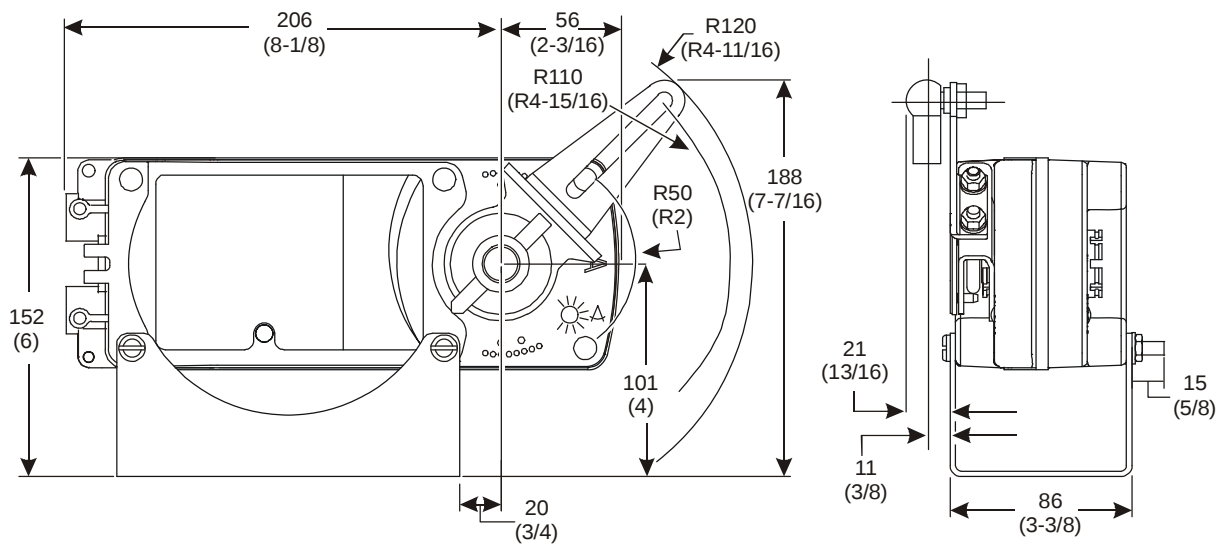
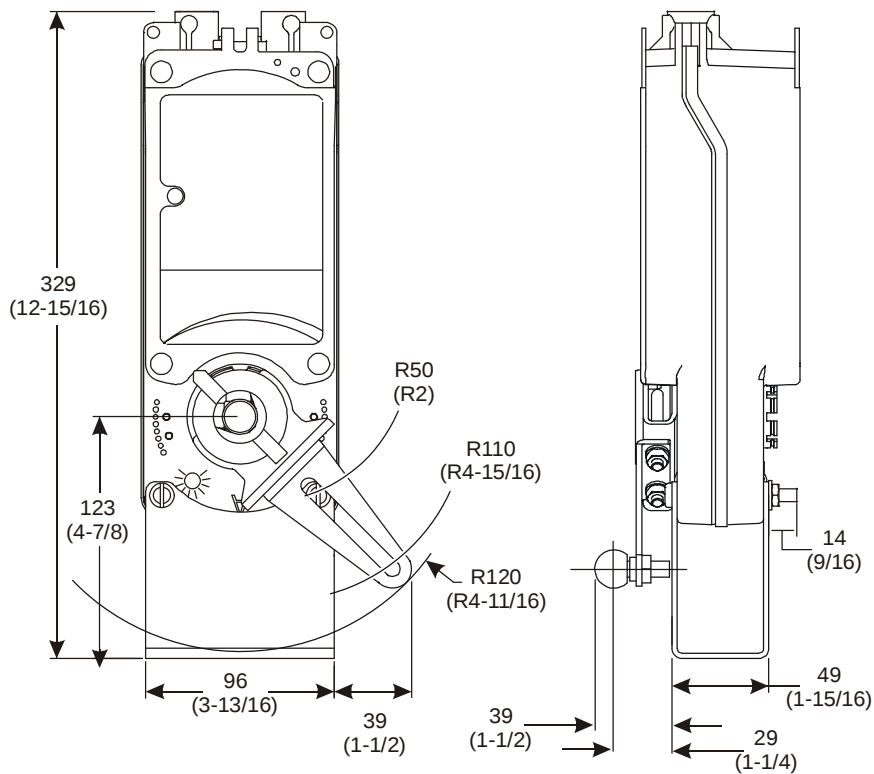

Figure 2: M9000-170 Remote Mounting Kit (with Actuator) Overall Dimensions, mm (in.)
Figure 3: M9000-171 Remote Mounting Kit (with Actuator) Overall Dimensions, mm (in.)
See Figure 2 and Figure 3 for overall dimensions and proper mounting orientation. These actuators are shown in the spring-return position.
6. Align the actuator mounting holes with the bracket mounting holes, as shown in Figure 2 and Figure 3.
7. Using two 1/4-20 UNC-2A machine screws, secure the actuator to the mounting bracket as shown in Figure 2 and Figure 3. Install the washer, and tighten the hex nut using the recommended torque of 1.7 to 2.3 N·m (15 to 20 lb·in.).